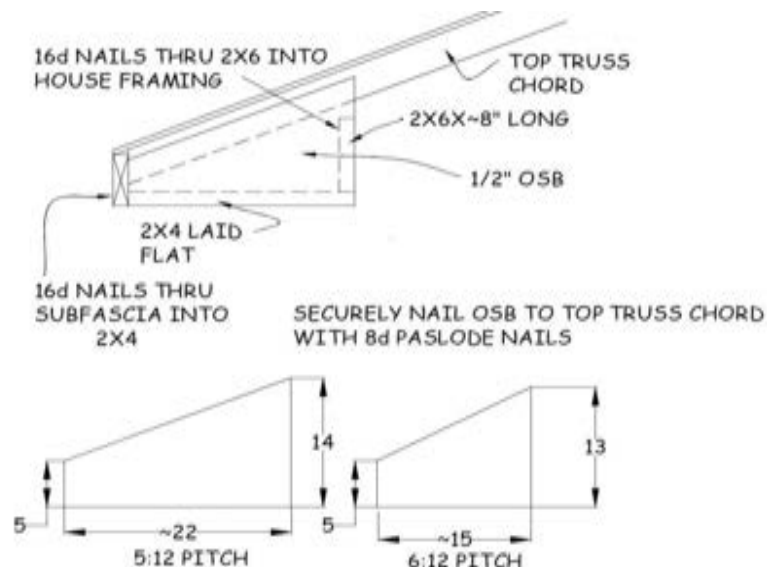

Figure 11-4. Gable Corner.
2. Gable corners are built using one layer of 1/2" OSB (see Figure 11-4).
6. Nail the OSB to the 2x4 and the 2x6 with six 2⅜” collated nails, using either factory edges or a framing square to keep the frame pieces square to each other (see Figure 11-4).